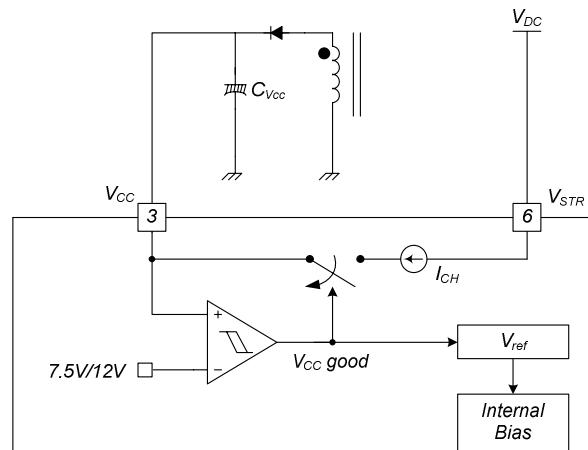

Figure 17. Startup Block
1. Startup: At startup, an internal high-voltage current source supplies the internal bias and charges the external capacitor ($C_{V_{CC}}$) connected to the V_{CC} pin, as illustrated in Figure 17. When V_{CC} reaches 12V, the FSGM0565RB begins switching and the internal high-voltage current source is disabled. The FSGM0565RB continues normal switching operation and the power is supplied from the auxiliary transformer winding unless V_{CC} goes below the stop voltage of 7.5V.